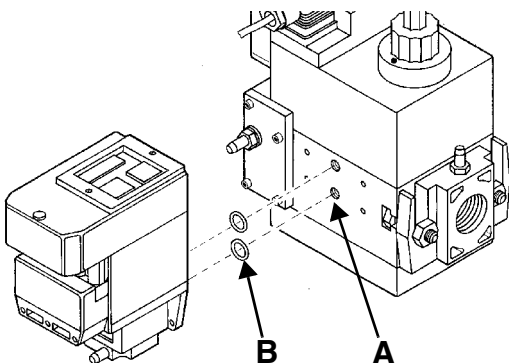
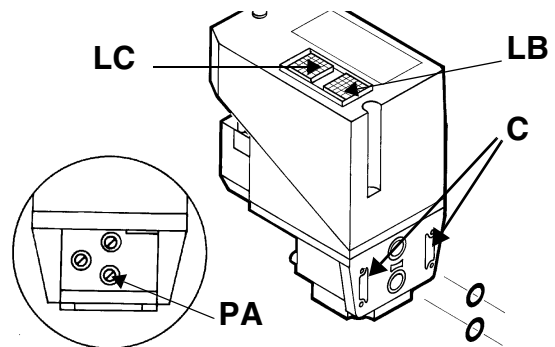

Fig. 16
Fig. 17
- 3 remove the Multibloc screw plugs (Fig. 16-A);
- 4 insert sealing rings (10,5 x 2,25) into VPS 504 (Fig. 16-B - Fig. 17)
- 5 Torque screws 3, 4, 5, 6 (M4 x16) Fig. 17-C
When wishing to monitor the test, install a pressure gauge ranged to that of the pressure supply point **PA** (Fig. 17). If the test cycle is satisfactory, after a few seconds the consent light **LC** (yellow) comes on. In the opposite case the lockout light **LB** (red) comes on. To restart it is necessary to reset the appliance by pressing the illuminated pushbutton **LB**.